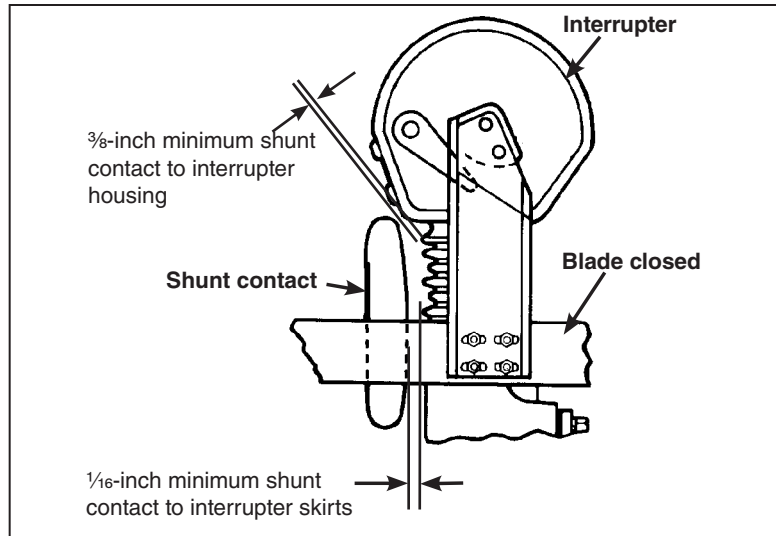

Figure 42. Blade assembly in the fully closed position.
- (e) With the switch in the fully closed position, verify the minimum clearances between the blade shunt contact and the interrupter, measured to the interrupter housing as well as the interrupter skirts. See Figure 42.